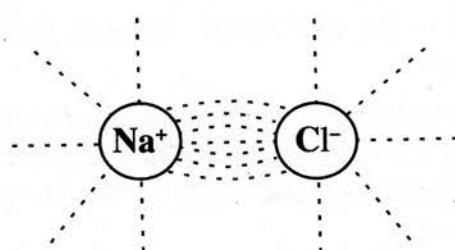

Fig. 6.2 In solid state, ions are held by electrostatic attraction.
1. Solid sodium chloride is an electrovalent compound and its crystal structure contains sodium ions $[\text{Na}^+]$ and chloride ions $[\text{Cl}^-]$. In solid state sodium chloride ions are not free but are held together by an electrostatic force of attraction hence it does not conduct electricity (due to the absence of free ions). [Fig 6.2].